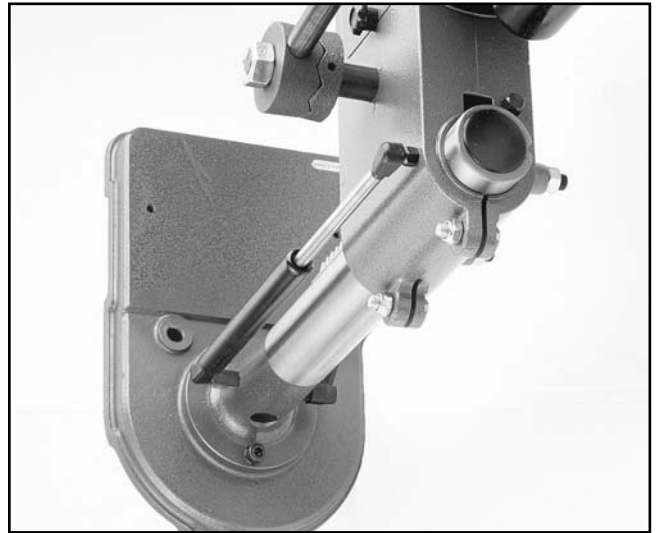

Figure 2.
2. With the head fully extended above the mortiser's base, snap the hydraulic cylinder into the fittings located on the right side of the head and at the base of the column. **Figure 2.**